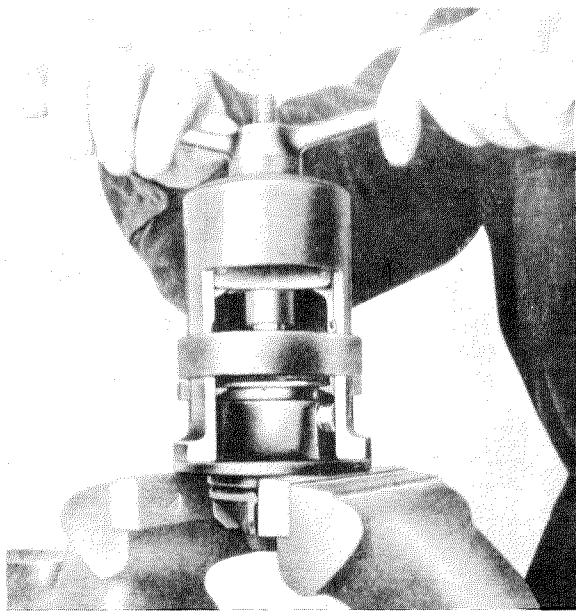

Fig. 20 — 5/3
5. Knock out the two annular grooved bearings (13) and (10) and the seal (9), using a suitable drift (Fig. 20 — 5/1).